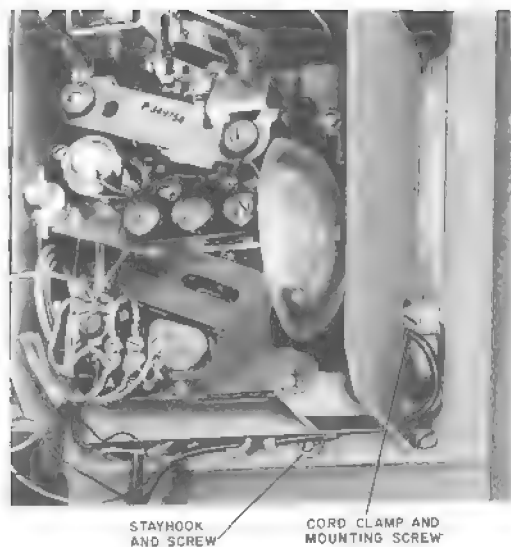

Fig. 20—Location of Armored Cord and Mounting Hardware in 235/1235-Type Coin Collector
2.29 Refer to Fig. 20 for routing and securing handset cord to 235/1235-type coin collectors.